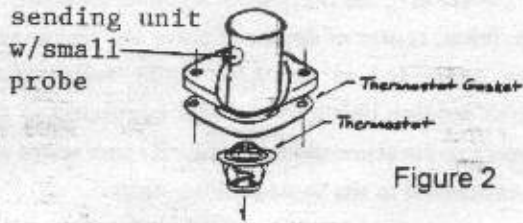

Figure 2
6. Retrieve from your SJE kit the new thermostat housing assembly (Figure 2). Thread the original water temperature sender, sender with the larger probe, into the NPT threaded hole directly below the thermostat outlet to left. Thread original high water temperature alarm sender into the remaining threaded hole on thermostat outlet (Figure 2). Tighten both senders firmly, using caution not to over tighten. We recommend using pipe thread sealant when installing threaded fittings.
8. Clean thermostat housing gasket surface on the intake manifold. Insert original thermostat, spring end down (Figure 2). Position new gasket, supplied in your SJE kit between thermostat and thermostat housing. Secure thermostat housing with the (2) 3/8" X 1" bolts and lock washers. Tighten the two bolts firmly and evenly.